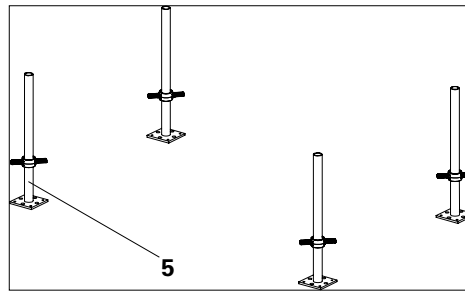

Fig. A1.01
1. Spindle out the four Base Spindles TR 48-75/55 (5) to the required length and set up using the grid dimensions. (Fig. A1.01)